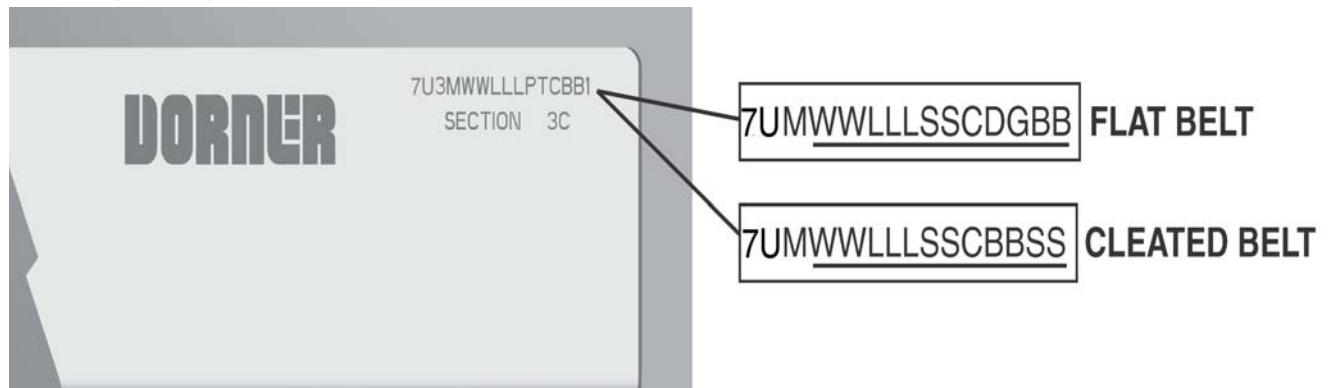

Figure 80
Refer to the model number on the conveyor frame (**Figure 80**). From the model number, determine conveyor width (WW), length (LLL), drive stand location (S), idler stand location (S), cleaning options (C), drive/pulley type (D), profile (G) and belt material (BB).
Refer to the model number on the conveyor frame (**Figure 80**). From the model number, determine conveyor width (WW), length (LLL), drive stand location (S), idler stand location (S), cleaning options (C), cleated belt material (BB) and cleat spacing (SS).